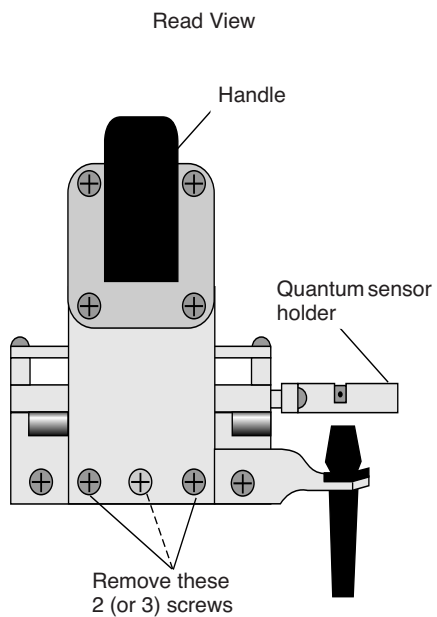

Figure 28-9. Remove the screws on the back side of the handle.
c) Remove the two screws (three on some instruments) on the back side of the handle, as shown in Figure 28-9, using a #1 Phillips head screwdriver. Be careful not to lose the spacer that is between the handle mounting plate and the hinge.